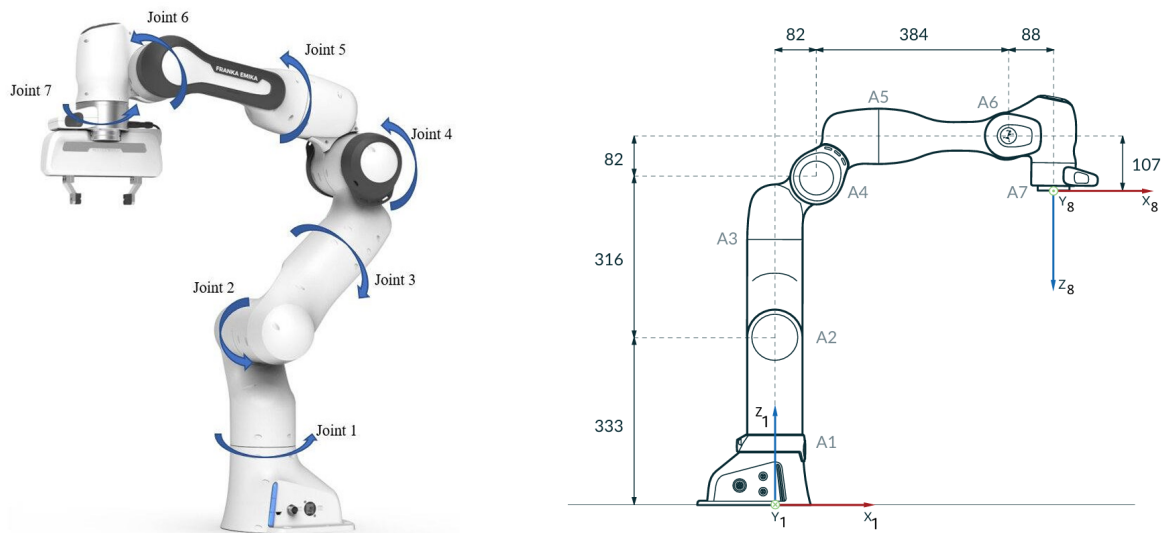

Figure 1: Different views of the robot. (a) Robot view in a specific orientation. (b) Robot view in a general configuration.
2. Provide the Jacobian matrix numerically for the given robot configuration (Figure 1-a).